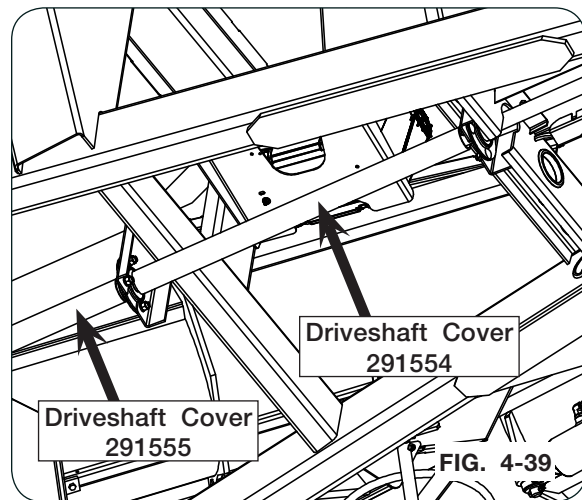

FIG. 4-39
8. Assemble new 25" PVC driveshaft cover (291555) between bearings near the gearbox, and new 36" PVC driveshaft cover (291554) between bearings behind the hitch driveline cover. (FIG. 4-39)
9. Slide the hitch end of the driveshaft, bearing and hitch driveline cover into the bearing near hitch of the cart. (FIG. 4-39)